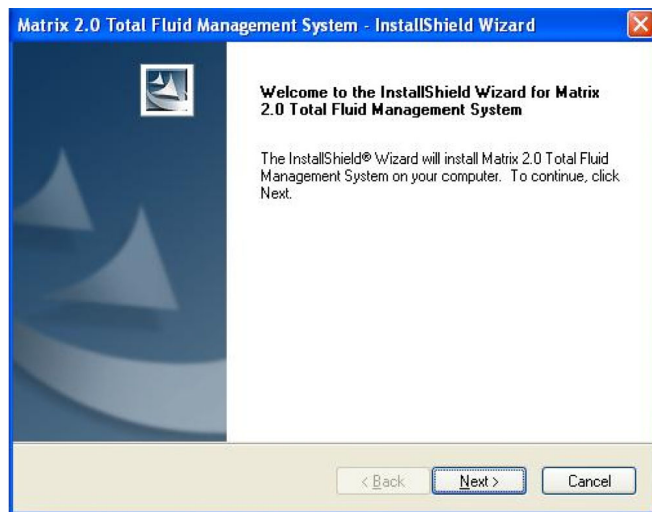
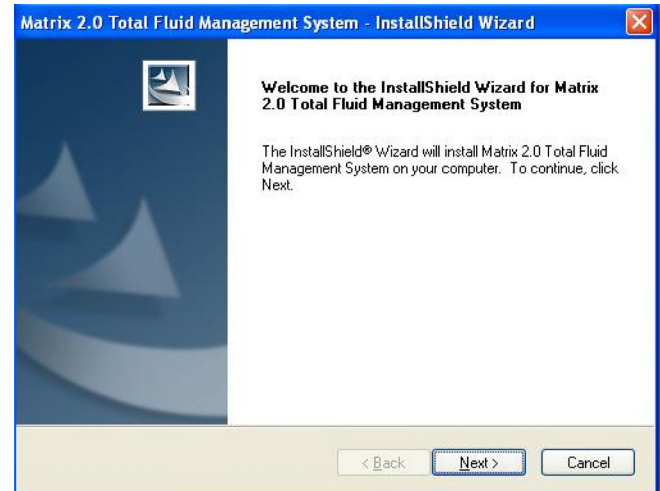

FIG. 12 Setup Path 1 - InstallShield Wizard
FIG. 21 Setup Path 1 - InstallShield Wizard
See FIG. 12 through FIG. 21.
4. The setup program should start automatically. If it doesn't, open Windows Explorer (**Start / All Programs / Accessories**). Locate the CD-ROM drive letter under **My Computer** and double-click the setup executable file to see the screen shown in FIG. 12.